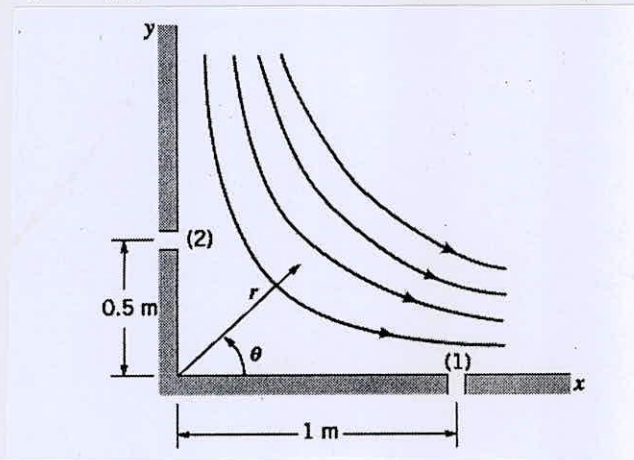

Fig. Q3.c
3. (a) Deduce an equation for the metacentric height of a floating body. (12)
- (b) Show that the difference in the values of the stream function of two streamlines gives the flow rate between those streamlines. (7)
- (c) The two-dimensional flow of nonviscous, incompressible fluid in the vicinity of the  $90^\circ$  corner of Fig. Q3.c is described by the stream function  $\Psi = 2r^2 \sin 2\theta$ , where  $\Psi$  has units of  $\text{m}^2/\text{s}$  when  $r$  is in meters. Assume the fluid density is  $1000 \text{ kg/m}^3$  and the x-y plane is horizontal - that is, there is no difference in elevation between points (1) and (2). (16)
- If the pressure at point (1) on the wall is 34 kPa, what is the pressure at point (2)?